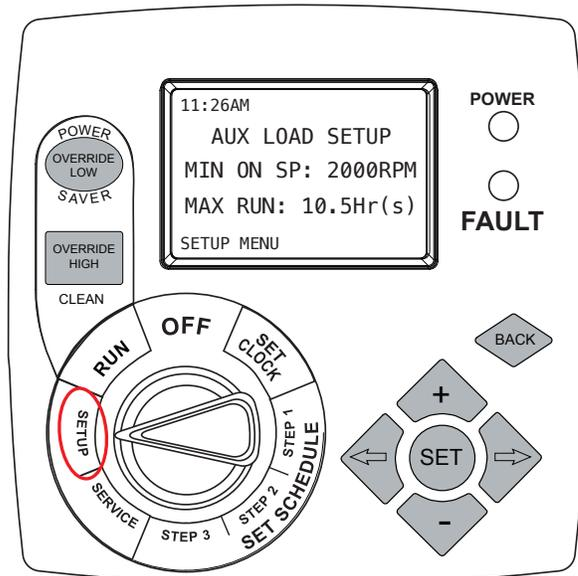

Figure 10 - Auxiliary Load
1. Turn the Selector Knob to SETUP. (See Figure 10)